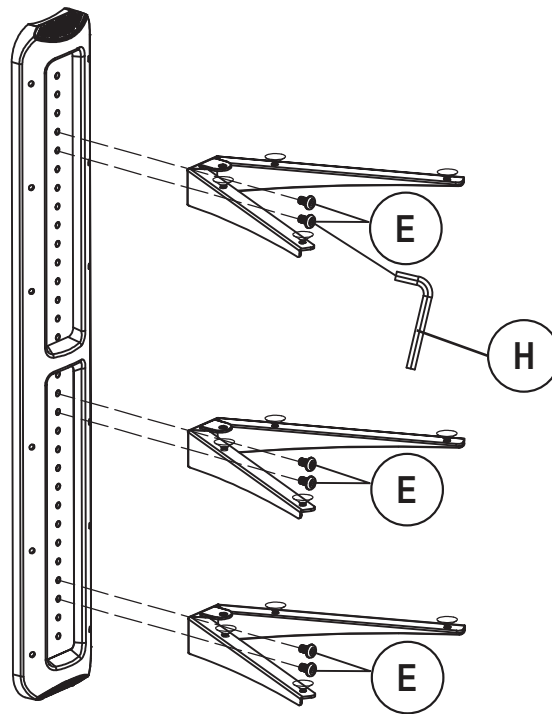

Fig. 5
Attach the **Shelf Supports (3)** to the **Wall Plate (1)** using the six **Shelf Support Bolts (E)** and **Allen Wrench (H)** as shown in Fig. 5. Do not overtighten the bolts.